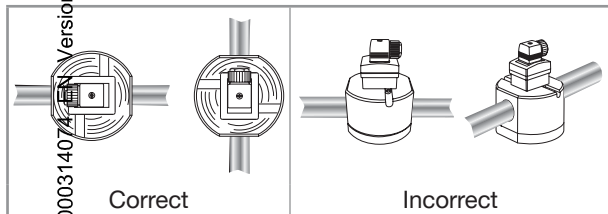

Fig. 3: *The spindles of the oval gears must be horizontal*
- the spindles of the oval gears are set horizontally, as shown in Fig. 3.